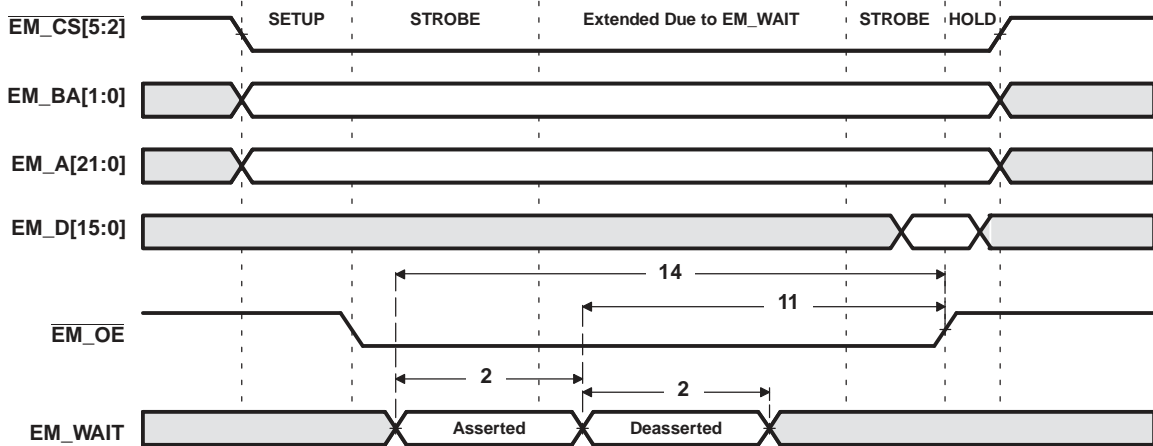
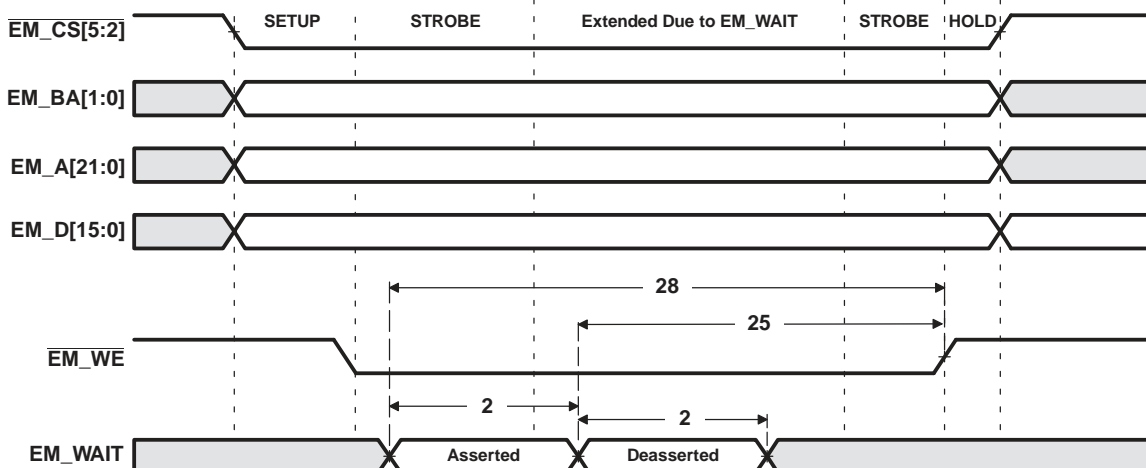

Figure 6-23.  $\overline{EM\_WAIT}$  Read Timing Requirements
Figure 6-24. EM\_WAIT Write Timing Requirements
- (1) E = SYSCLK5 period in ns for EMIFA. For example, when running the DSP CPU at 594 MHz, use E = 10.1 ns.
(2) Setup before end of STROBE phase (if no extended wait states are inserted) by which EM\_WAIT must be asserted to add extended wait states. Figure 6-23 and Figure 6-24 describe EMIF transactions that include extended wait states inserted during the STROBE phase. However, cycles inserted as part of this extended wait period should not be counted; the 4E requirement is to the start of where the HOLD phase would begin if there were no extended wait cycles.